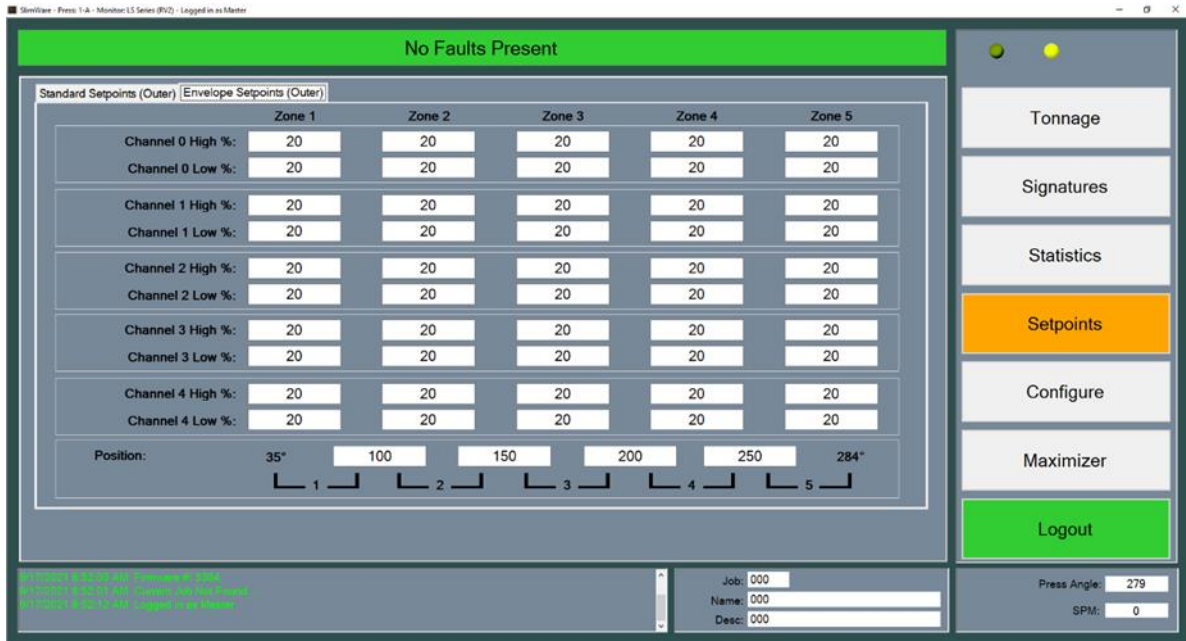

Figure 2-9: Envelope Setpoints Screen (4-Channel)
With the LS-ZT, five (5) envelope zones can be calculated allowing for different high and low tolerances throughout certain windows. As seen in Figure 2-9, the enveloping setpoints for each zone are set by a degree-based value. Each window can be configured by entering the desired degrees. To bypass a zone, simply enter the same value as the previous zone.
- The LS-ZT allow for up to five (5) zones to be calculated throughout the press stroke. Enter the desired windows in these textboxes.